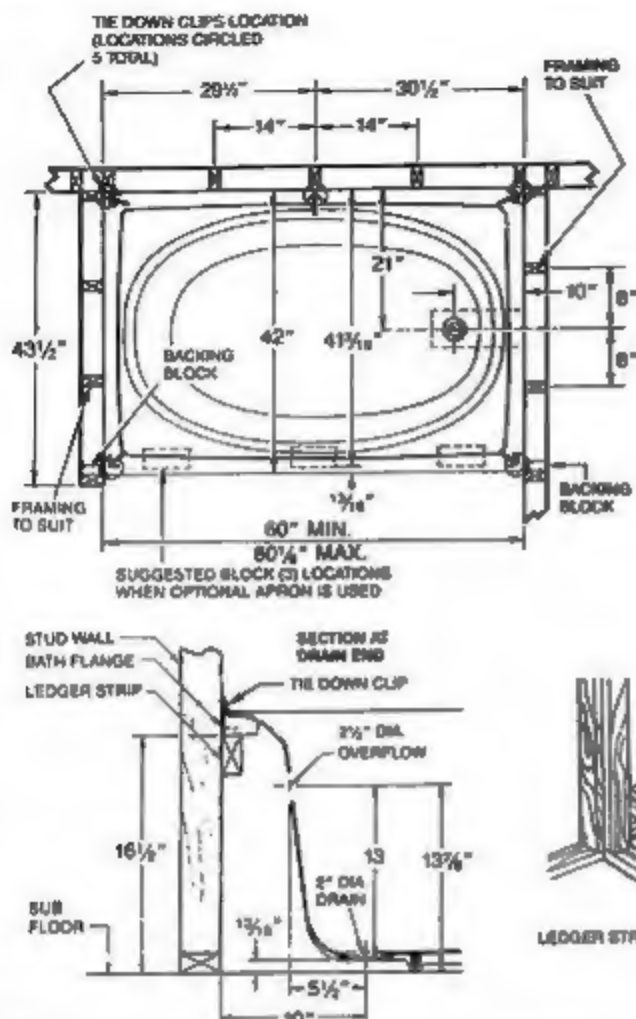

Figure 2
See Figure 2 Pocket Dimensions
The supply line to the tub spout and valves should be located before the unit is installed. Locate the drain line and trap using dimensions shown in Figure 2.
- Optional Apron Installation. While holding the apron from the bottom, slide it up into position. Push the apron back to contact the floor blocks (see figure 2). With large head roofing nails, nail end flanges to studs.
- Attach the tie down clips to the framing studs. Attach the clips with large head roofing nails driven into the studs. Refer to Figure 2.
- Attach the bath to the structure by using the tie down clips. Screws are not provided. Refer to figure 2 for clip position.